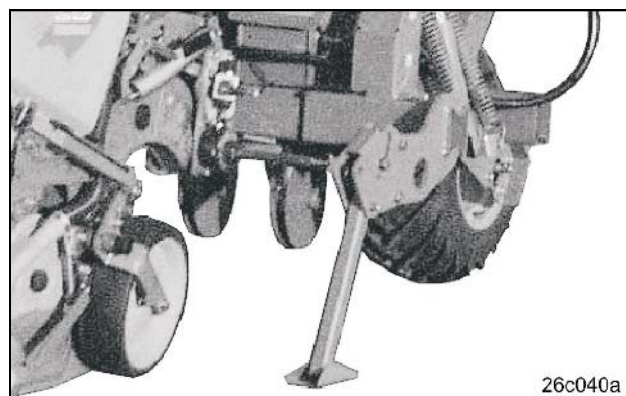

Fig. 59
**For parking the unfolded ED 902-K fold down the supports (Fig. 59) on the outer arms.**